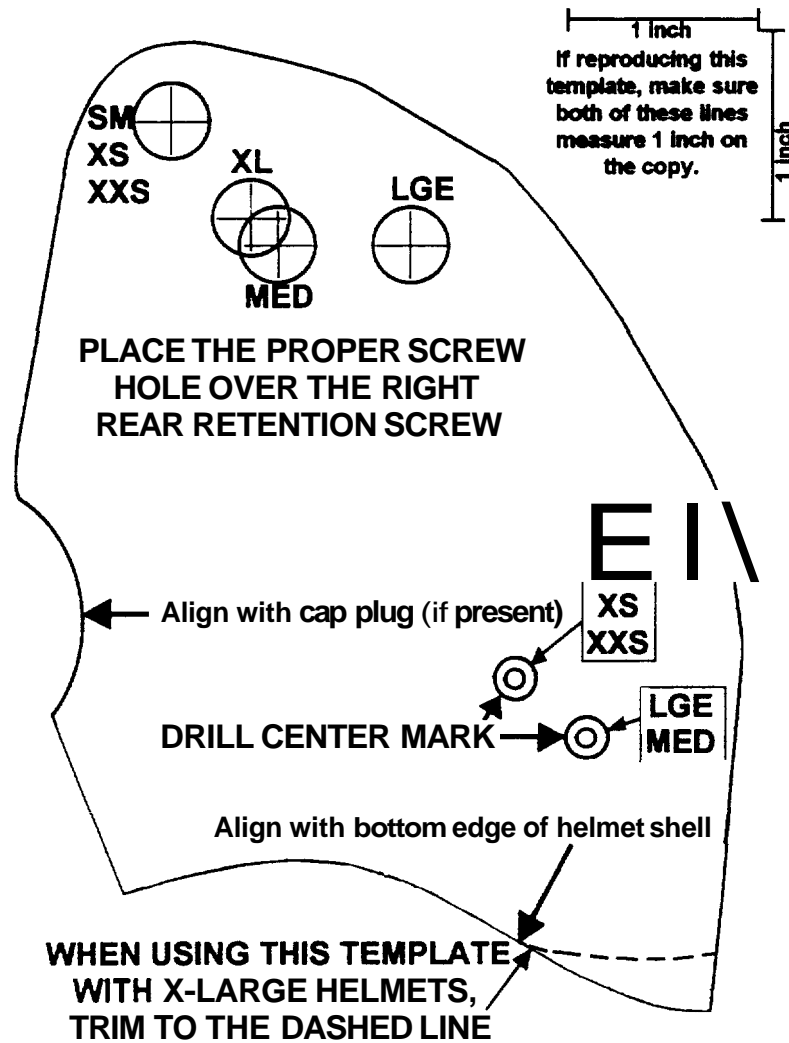

Figure 14. Template.
(6) Instructions for Cutting Template Out (Figure 14).